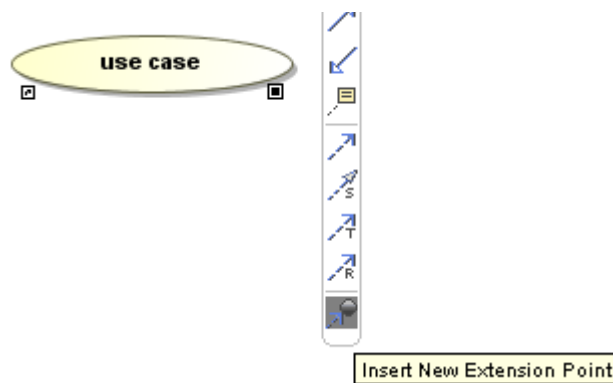

Figure 199 -- Use Case Smart Manipulator
- Select **Insert New Extension Point** on the Use Case smart manipulator (Figure 199);